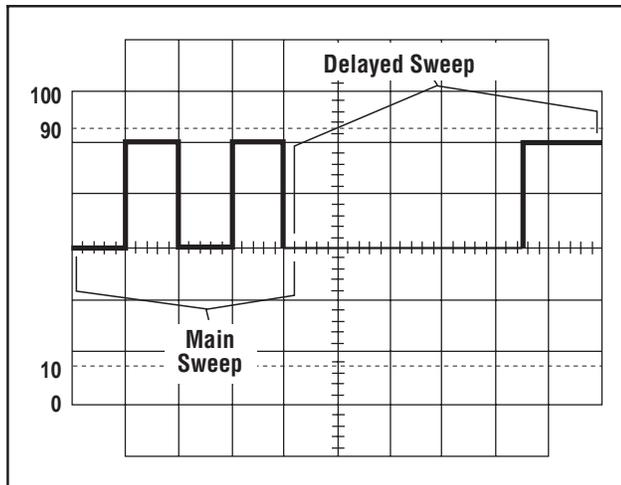

Fig. 4. MIX SWEEP MODE Display.
(Refer to Fig. 4)
2. Set the **Sweep Mode** switch to the **MIX** position. The display will show the main sweep on the left portion (representing the **MAIN Time Base** control setting) and the delayed sweep on the right portion (representing the **DELAY Time Base** control setting). The **MAIN Time Base** portion of the trace usually will be brighter than the delayed time base portion. Fig. 4 shows a typical display for the **MIX** display mode.